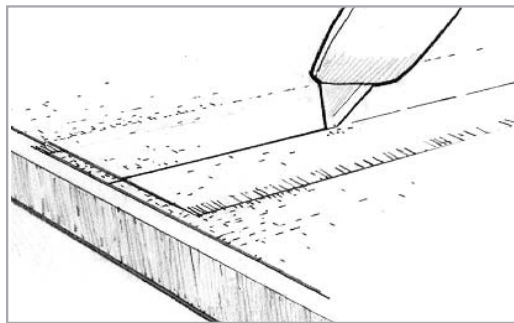

Figure 8-20 Trim overlapping fabric using a metal straightedge and a sharp utility knife, for a flush butt joint.
- b) Cut through both layers of cloth with a sharp utility knife (*Figure 8-20*).